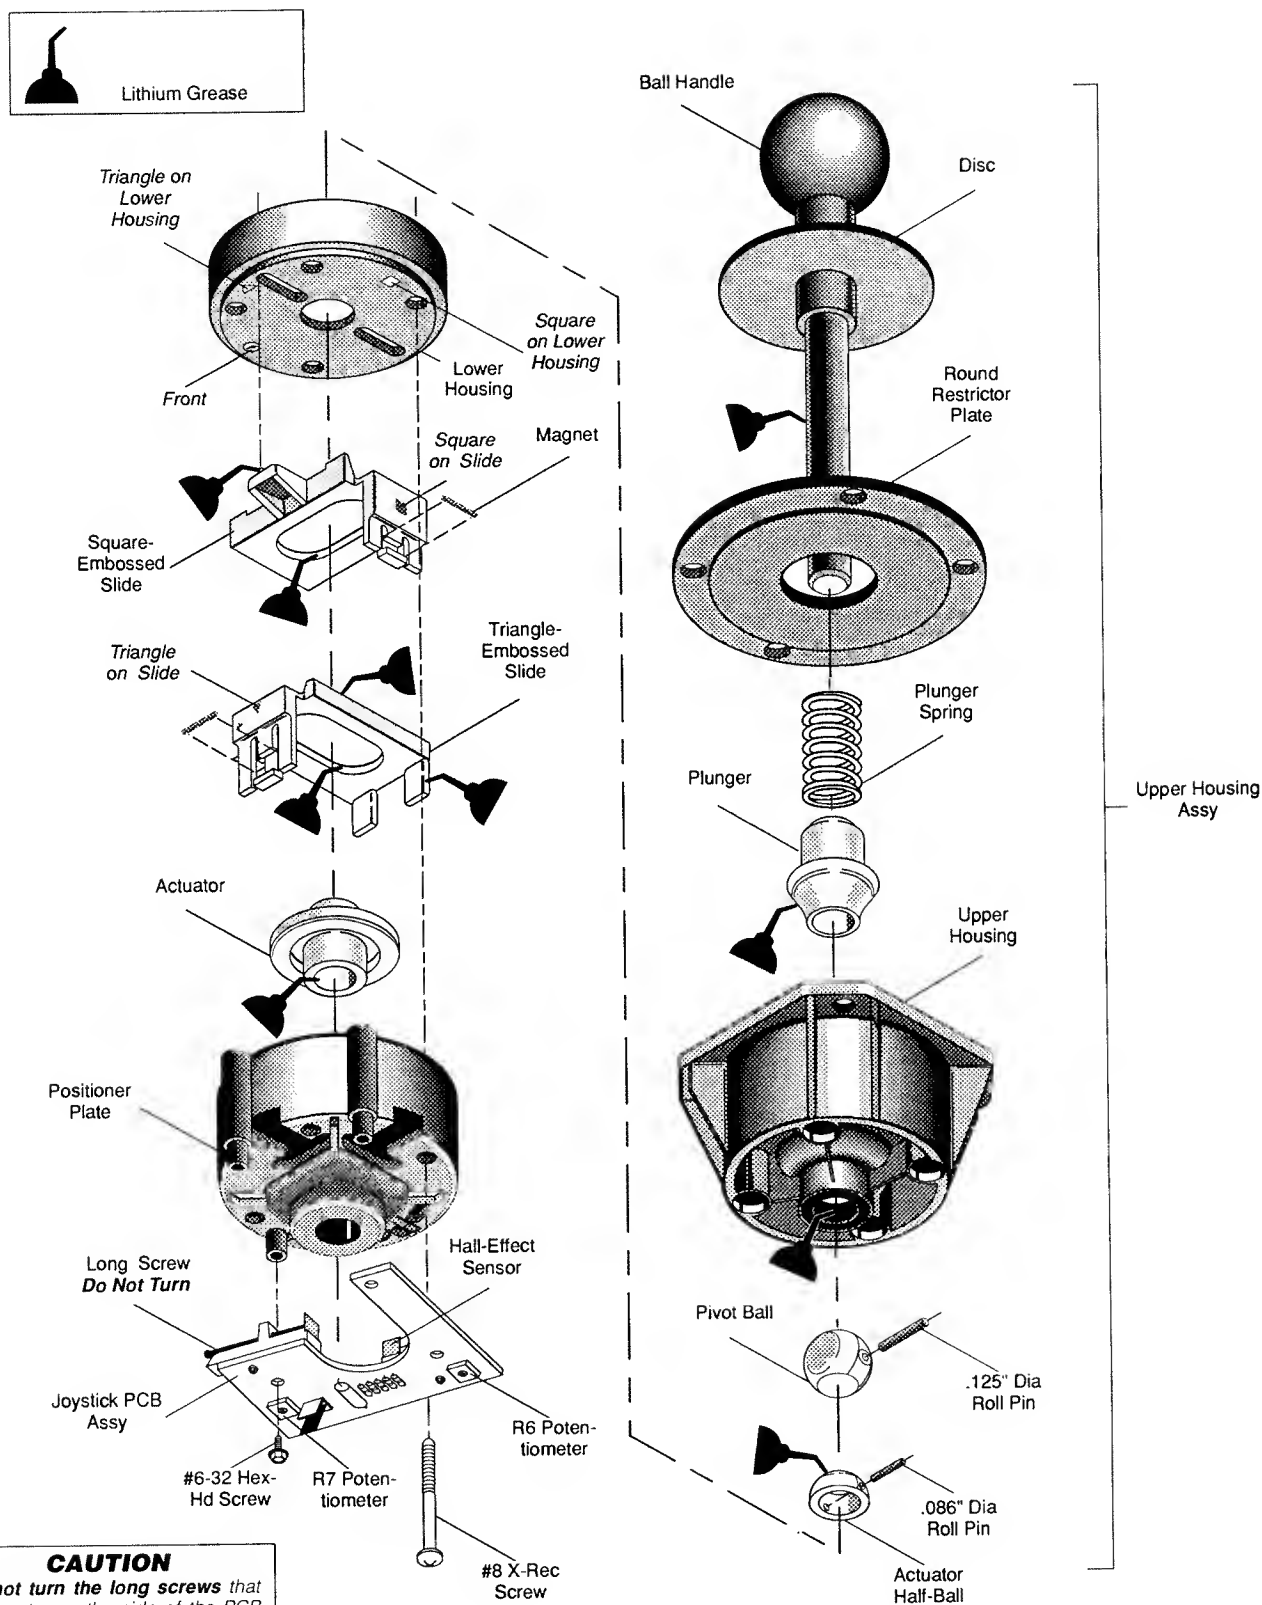

Figure 3-1 Maintaining the Joystick
2. Open the control panel and disconnect the harnesses connector. See Figure 3-1.
19. Install the joystick assembly on the control panel. Put the carriage bolts through the four holes. Use a 3/8-inch hex driver to tighten the four nuts holding the joystick assembly to the control panel. (See Figure 3-1.)
Perform the following procedure to remove and disassemble the joystick control. (See Figure 3-1.)
Perform the following procedure to reassemble the joystick assembly. (See Figure 3-1.)
2. Slide the spring on the shaft. Push the large end of plunger onto the shaft and over part of the spring (see Figure 3-1).
Make sure the two small round tabs on the bottom of the slide fit into the two slots in the lower housing. See Figure 3-1.